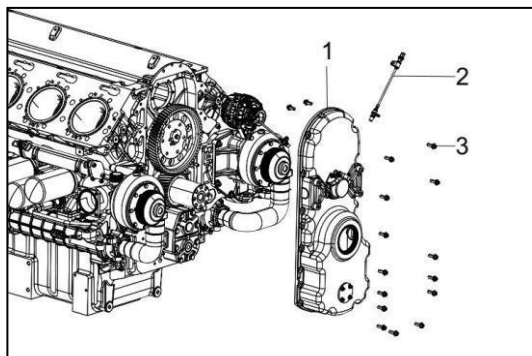

Figure 89
5. Disconnect the connecting wiring harness of speed sensor (Figure 89, 2). Remove the speed sensor if necessary.
6. Remove the bolts (Figure 89, 3) that retain the gear case cover to the cylinder block and oil pan.
7. Remove the gear case cover (Figure 89, 1).